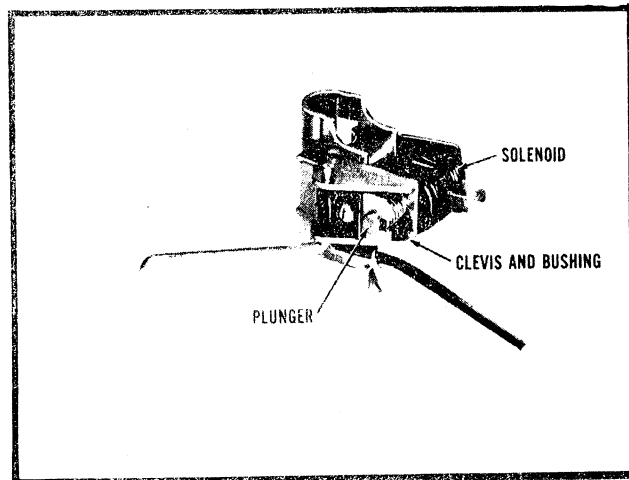

Figure 37
2) On the initial production of the 1957 models, a completely redesigned two-way valve was incorporated on some Suds Miser machines. Since the valve lever is actuated by the control magnet assembly on top of the gear case, an additional heavy duty solenoid is not required. The design of this solenoid is basically the same as the agitator or extractor control solenoid, except that it is considerably smaller. It is mounted in a control lever, assembly *Figure 37*, which pivots on a stud in the top of the gear case. When this solenoid is energized, a plunger pulls a spring-loaded clapper which causes a link that is secured to a clevis and bushing assembly on the other end to move in the cam plate slot. The control magnet then pivots the control lever assembly so that it trips the valve lever from one position to the other, thus, closing the drain port and opening the suds port